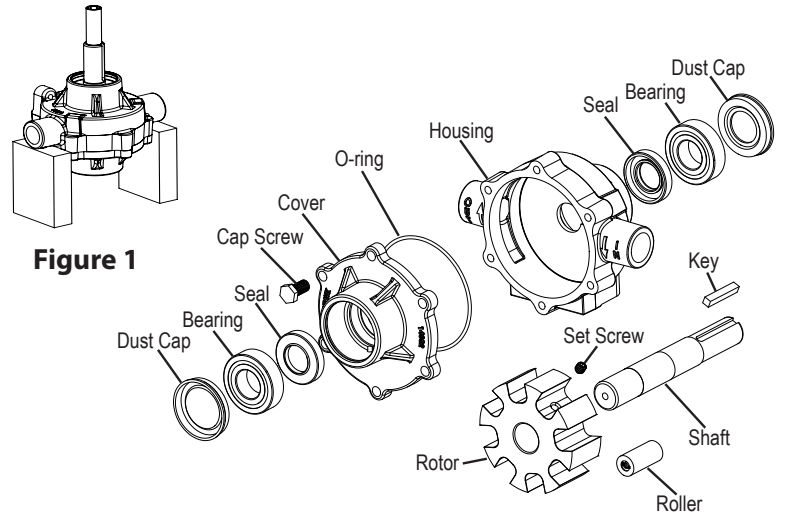
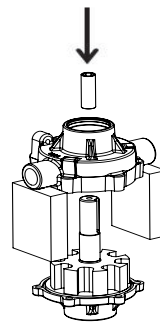

Figure 1
Figure 2
5. Support pump at ports as shown in Figure 1. Place pump on fixture with cover down and center shaft under press. Press pump apart as in Figure 2. Shaft and rotor will remain with cover.